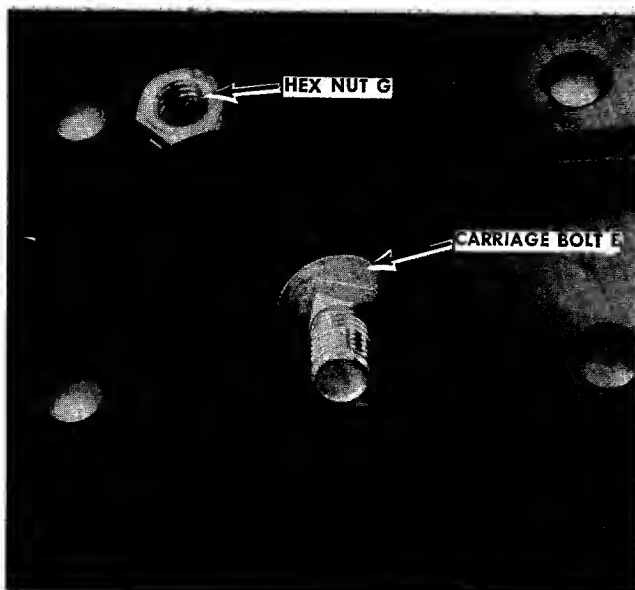
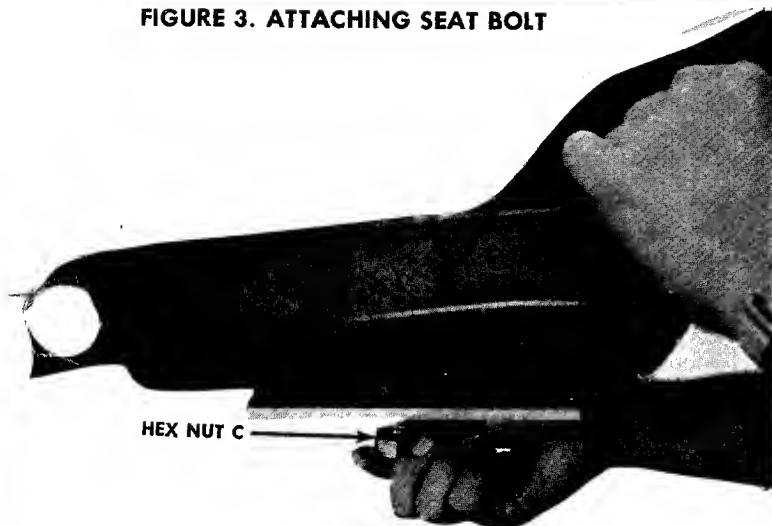

FIGURE 3. ATTACHING SEAT BOLT
FIGURE 4. SEAT ASSEMBLY
a. Carriage Bolt Mounted. Hook the large carriage bolt B into the bottom of the seat as shown in figure 3. Place the seat on the seat spring and secure with hex nut C. See figure 4.